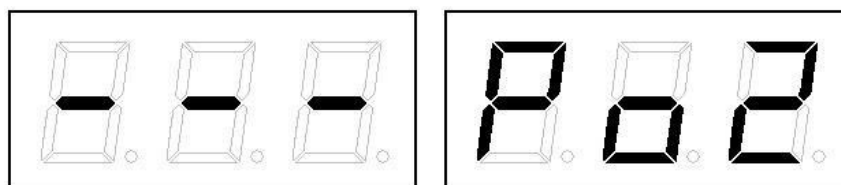

Figure 3.9 Input the position of the balance weight W2
- If the angle is greater than 120 degrees, the buzzer of the machine will emit 3 short beeps, indicating that the position selection is wrong. If the angle is less than 120 degrees, the machine will display the information shown in Figure 3.9, and enter the position W2 selection state.